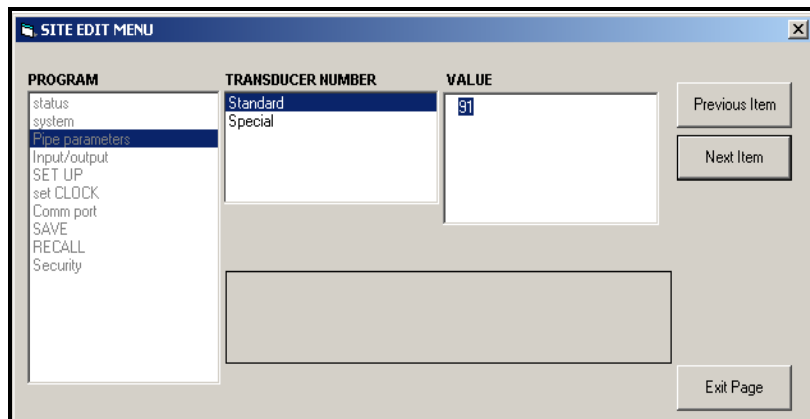

Figure 35: Pipe Parameters Option in the Site Edit Menu
- a. Highlight and double-click on the desired option in the left pane. Figure 35 shows the first entry (Transducer Number) in the Pipe parameters option. The title above the center pane lists the current entry, while the center pane displays the available selections for that entry.